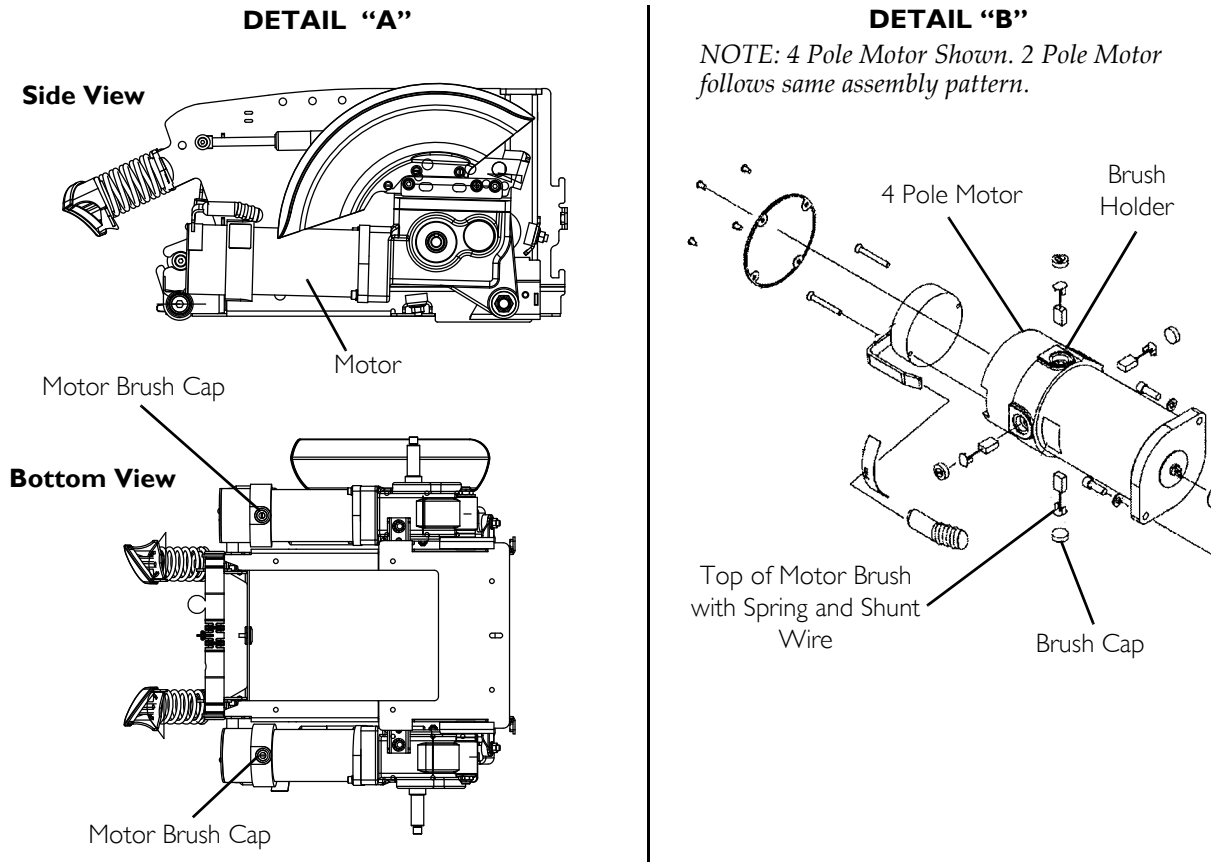

FIGURE 3.3 4-Pole Motor Brush Inspection and/or Replacement
NOTE: For this procedure, refer to FIGURE 3.3 on page 33.
3. Locate a brush cap on the 4 pole motor (four caps in all). See Detail "A" in FIGURE 3.3.
5. Pull the motor brush partially out of the brush holder. See Detail "B" in FIGURE 3.3.